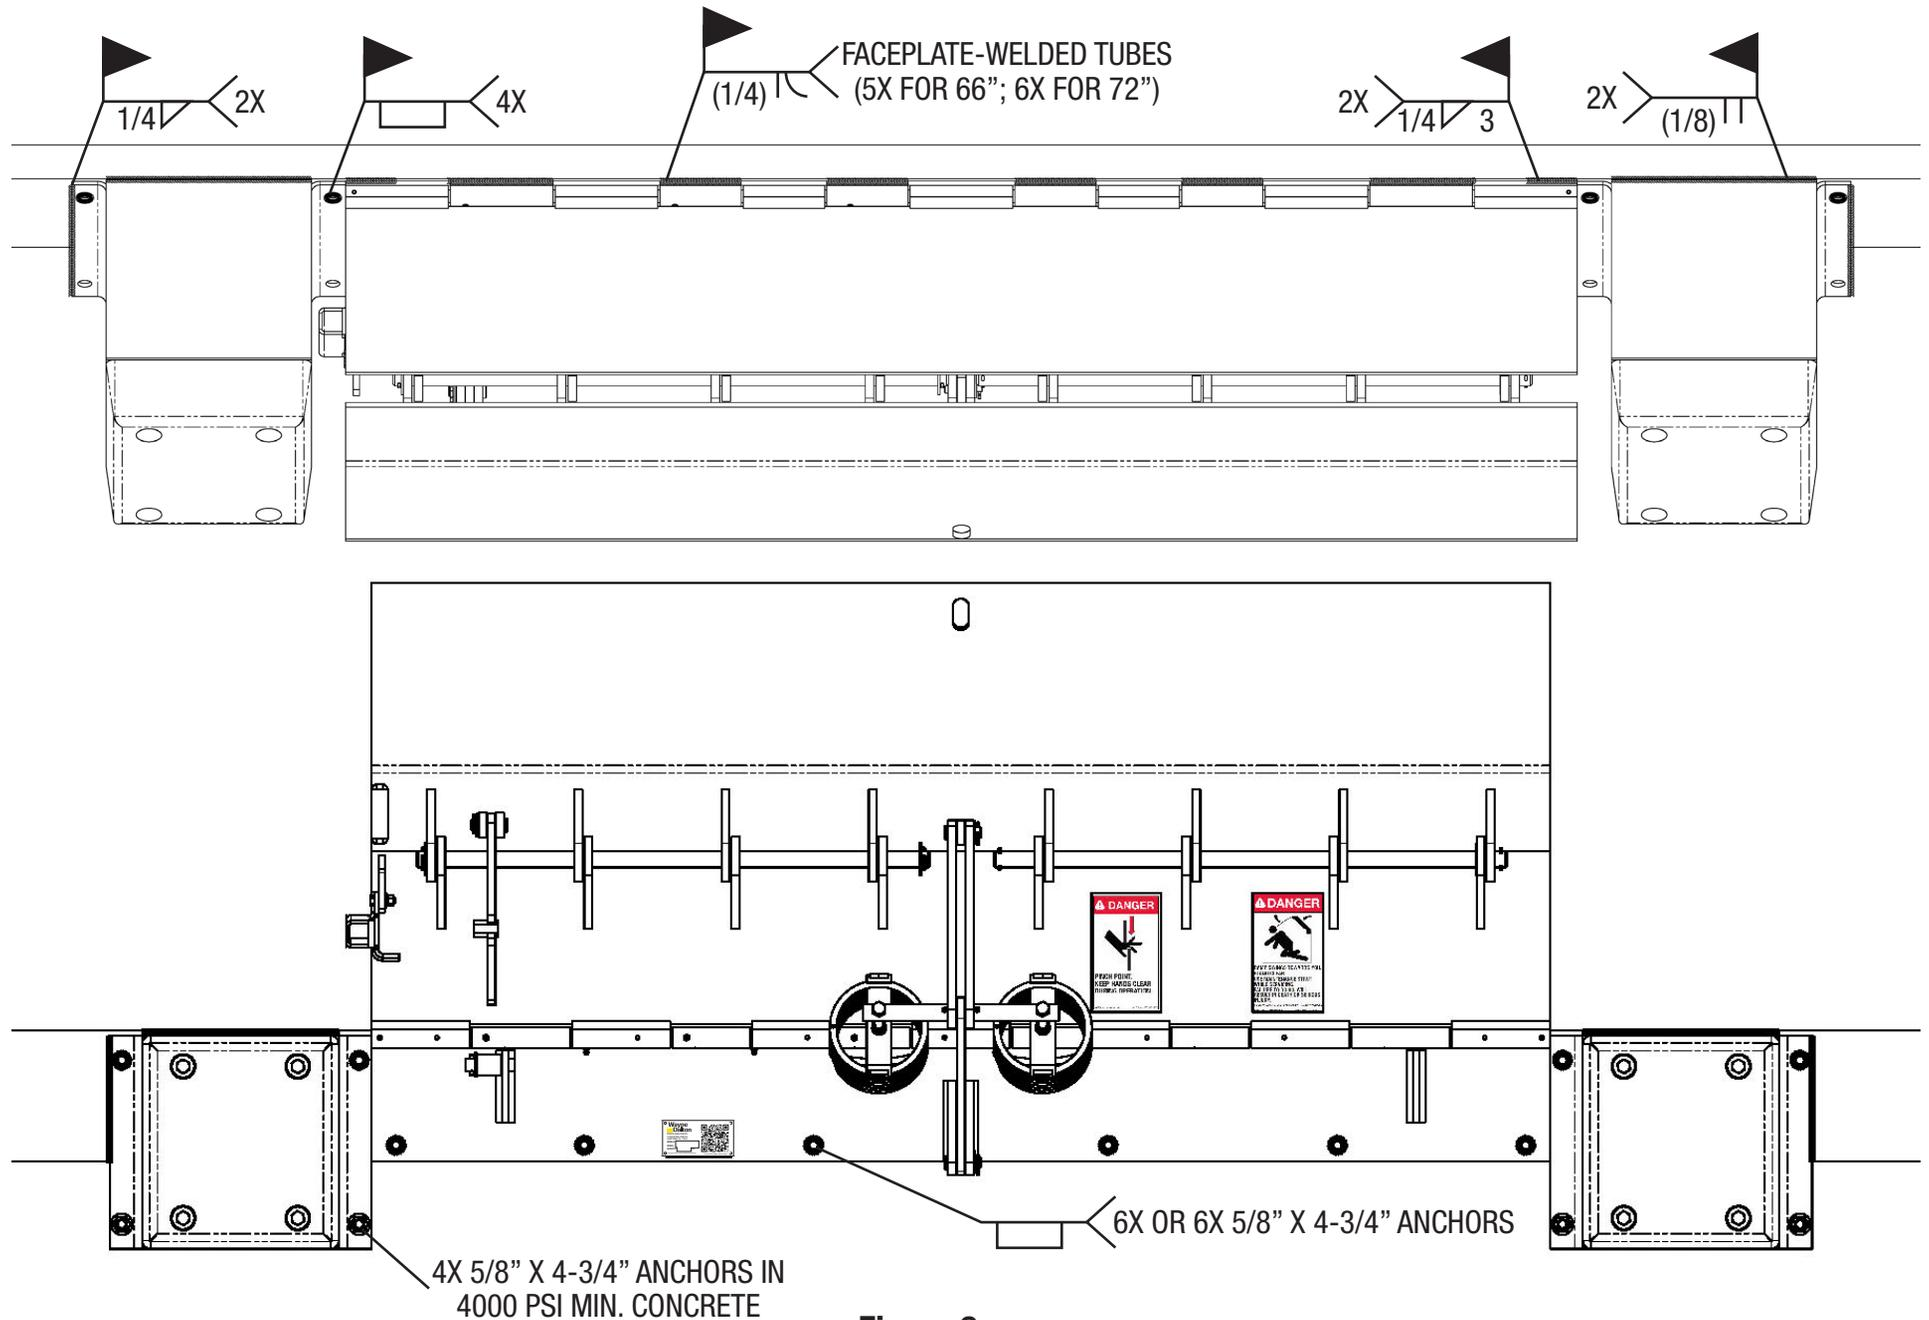

Figure 9
- a) To mitigate weld contamination, expose bare metal on all surfaces that will be welded in steps 5, 7 and 9. See **Figure 9**.
9. Complete Welding And Anchoring. See Figure 9: